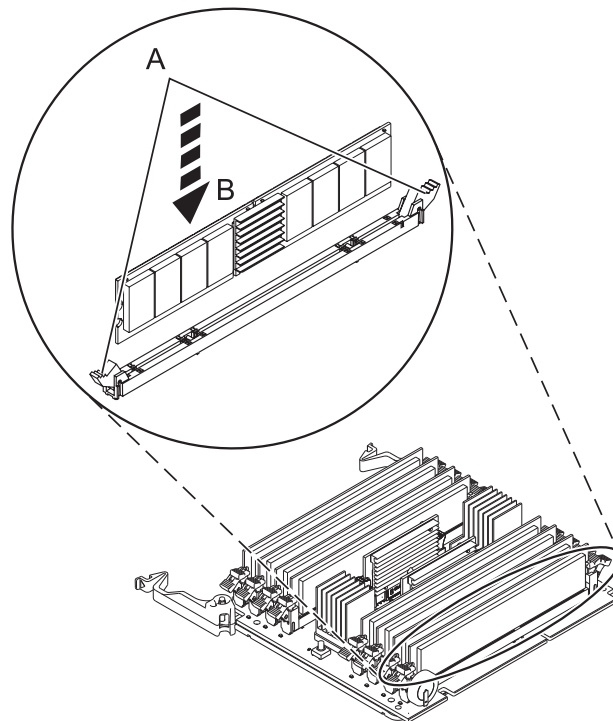

Figure 18. Replacing a memory module
- Ensure that the connector locking tabs (A) are pushed open into the unlocked position, as shown in Figure 18, before installing a new memory module.
- Carefully grasp the memory module along the edge (B) and align it with the connector.